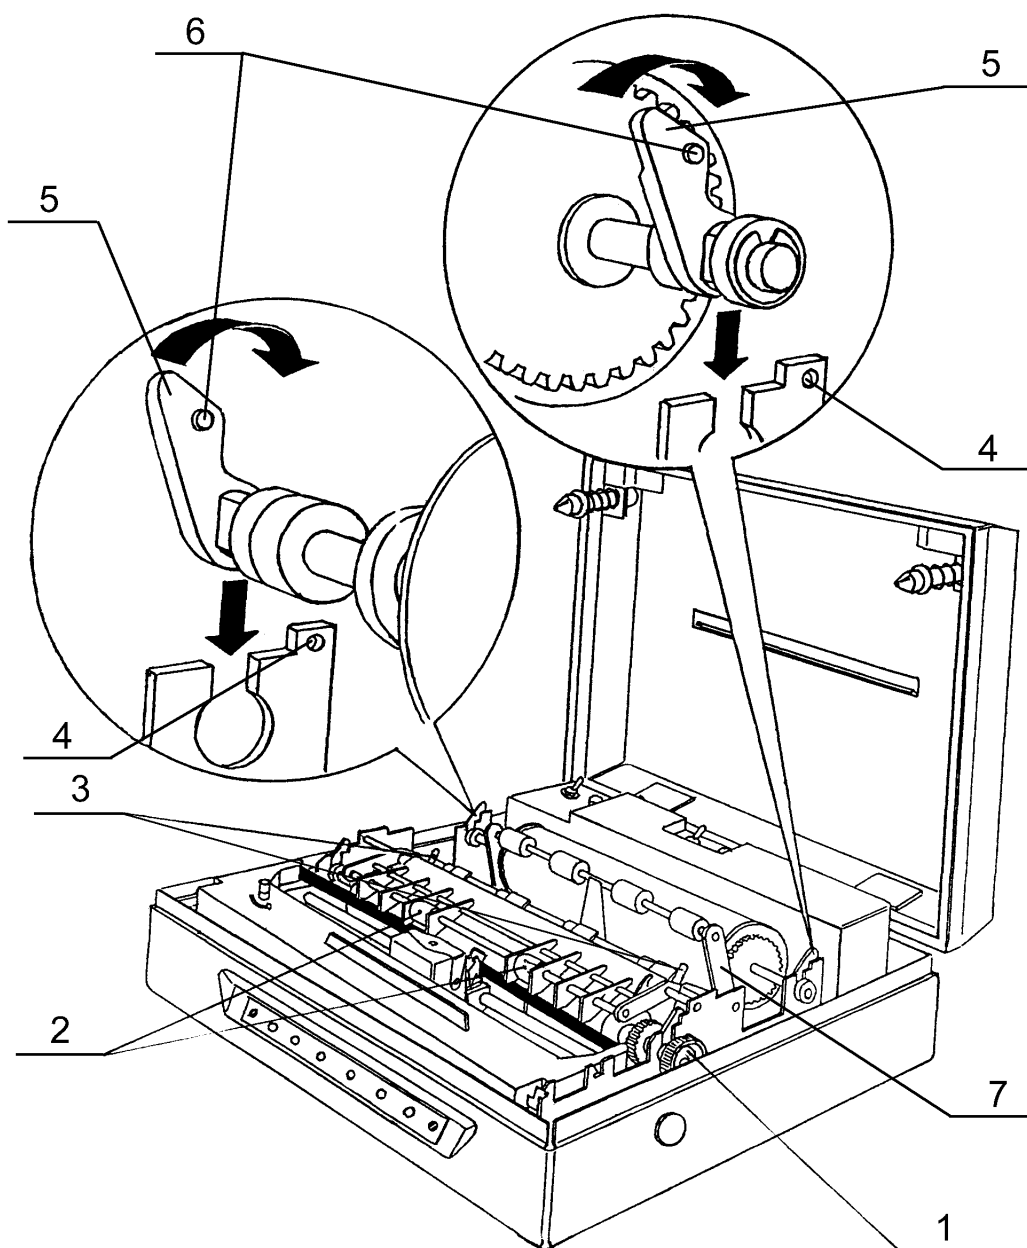

Figure 12 – Mounting paper reel into УД-М
- c) remove paper reel following recommendation of p. 2.2.2.3.3 and according to mnemonic scheme Fig. 12;